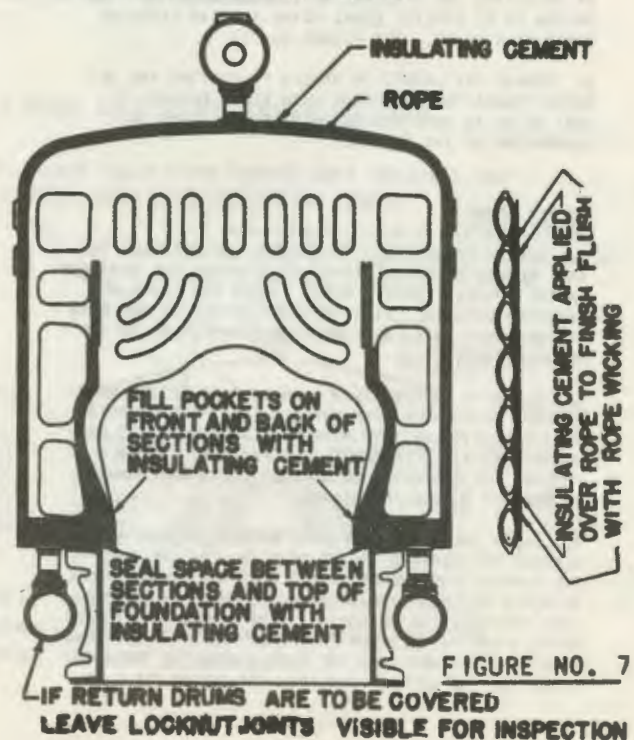

FIGURE NO. 7
1. THE SPACE BETWEEN THE SECTIONS MUST BE SEALED USING THE ROPE WICKING FURNISHED WITH THE BOILER. LAY THE ROPE OVER THE JOINT AND THEN PACK GENTLY INTO SPACE BETWEEN THE BEADS ON THE SECTIONS TAKING CARE NOT TO FORCE THE ROPE PAST THE BEADS. APPLY INSULATING CEMENT OVER THE ROPE SO AS TO FILL THE SPACE UP TO FINISH FLUSH WITH THE OUTSIDE LINE OF THE BOILER. SEE FIGURE NO. 7.